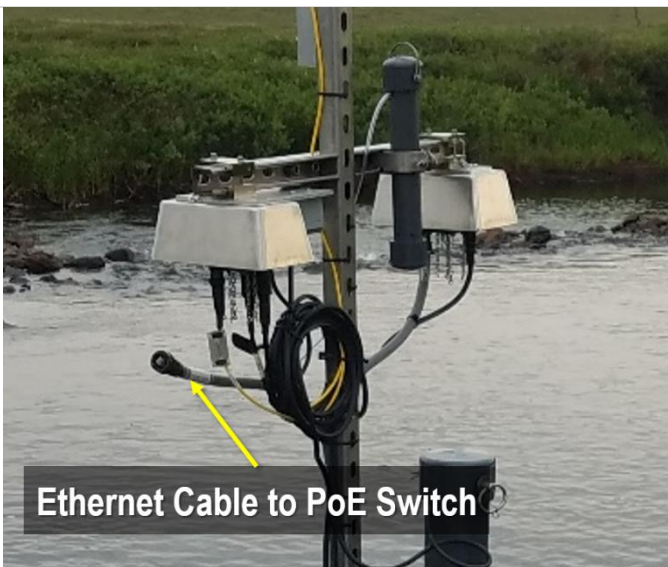

Figure 138. Disconnect Ethernet Cable (RJF) from Merlot Grape
**STEP 2** | Disconnect the Ethernet Cable (RJF/Eth to Comm on AIS Interconnect Mapping) from the 12V Merlot Grape that powers and acquires data from the Multisonde. This cable connects to the PoE Switch. Figure 138 shows this cable disconnected from the Grape. Drape the cable over the anchor or device post if zip ties do not hold it in place above water. Do not allow the cable connector to get wet or dirty.